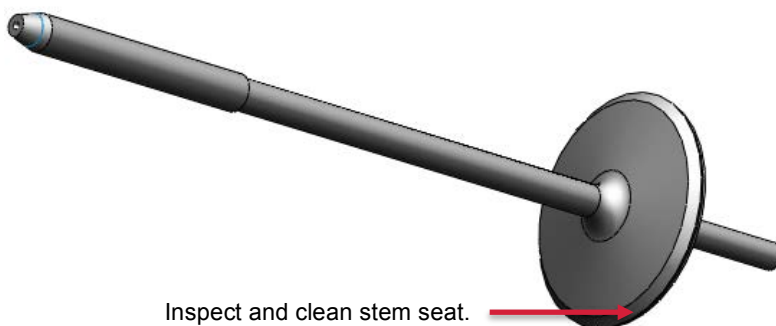

Figure 4-4 Stem Seat Inspection
- 4.1.2.4 The sealing surface is the stem seat (Figure 4-4). Clean the stem seat with emery paper (400 grit) then wipe it clean with a cloth and a suitable solvent. Run your fingernail over the seat surface to detect any flaws.